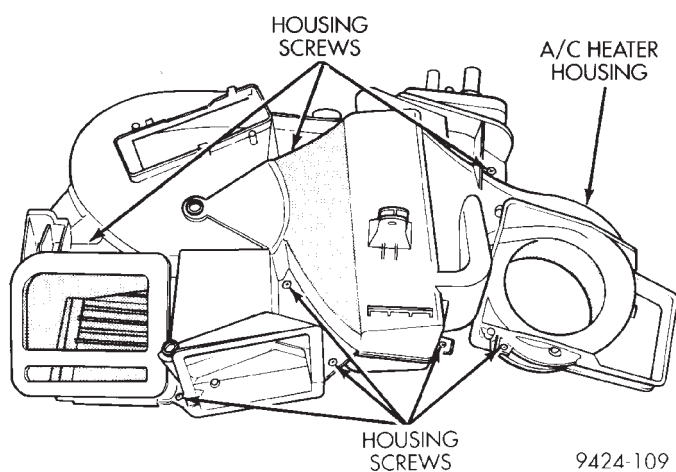

Fig. 71 A/C Housing Screws
- (17) Remove upper housing screws and clips (Fig. 71).